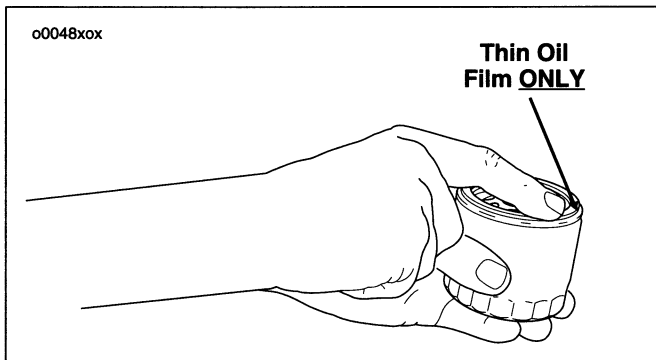

Figure 33. Applying Thin oil Film
5. See Figure 33. Apply a thin film of oil to gasket contact surface on mounting plate, gasket and new oil filter.